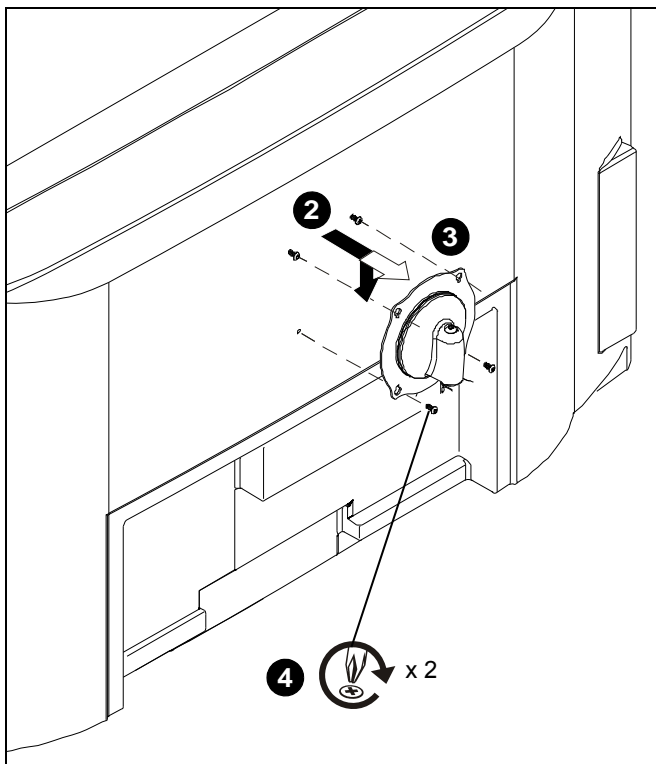

Figure 8
3. Place two screws in display back into upper teardrop mounting holes in display mounting plate and lower display until screws are seated in lower area of teardrop mounting holes. (See Figure 8)
4. Install two screws through display mounting plate and into lower mounting holes in display back. (See Figure 8)